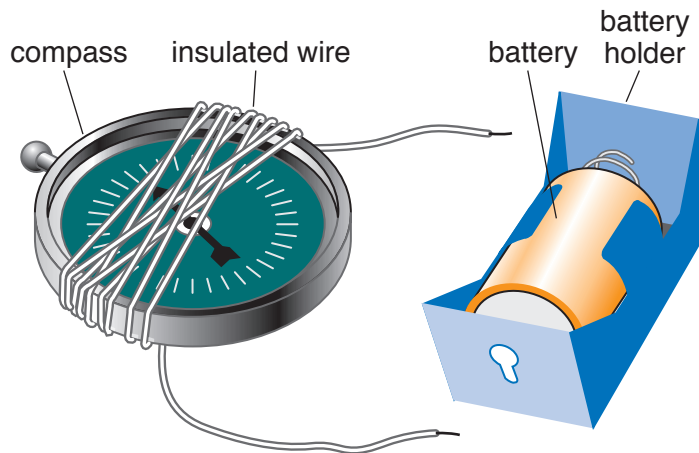

Figure 2
2. Leaving the short end of the wire hanging freely, wrap the long end tightly around the compass until you have only about 6 to 8 in. [15 to 20 cm] remaining (see Figure 2). Make sure that you are still able to see the needle of the compass after wrapping the wire around it.